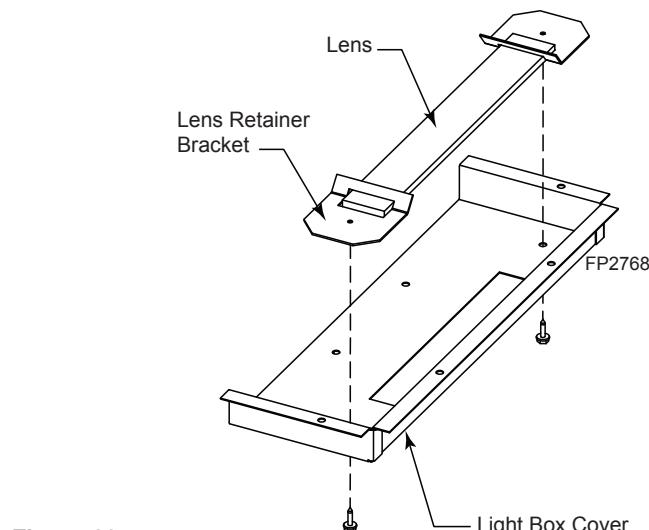

Figure 60 -
4. The light lenses are included in the log packaging. Remove the lens retainer brackets and install the light lenses into the light box covers as shown in *Figure 60*.